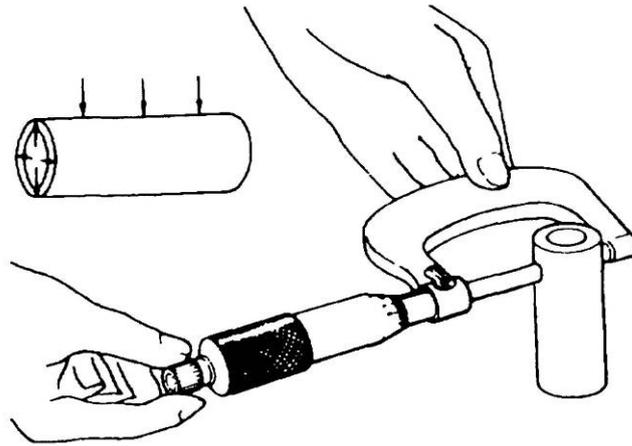

Figure 29 Measuring the Gudgeon Pin
- r. Measure the diameter of the gudgeon pin with a micrometer (Figure 29). The nominal dimension is 35.00 mm (1.377 in) and the limit is 34.95 mm (1.375 in). Replace the gudgeon pin if the wear exceeds the limit.